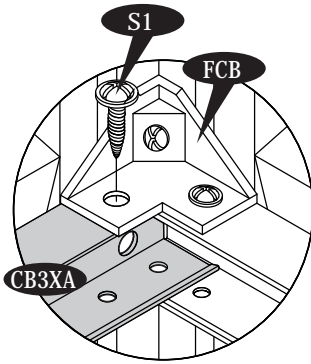

Fig.1
11. Stabilize the side panels with center bands (CB3XA) & (CB3A) assembly. See fig.1 to 6 and follow the steps.